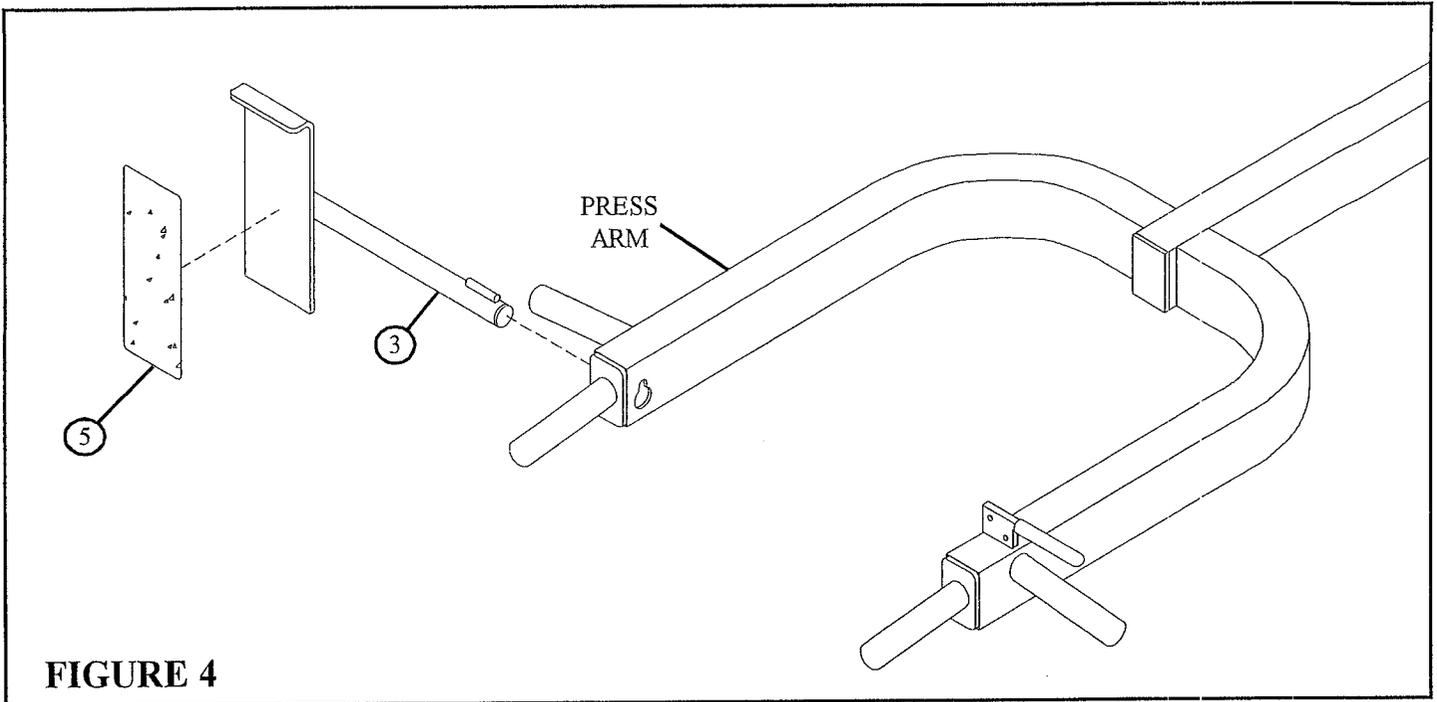

FIGURE 4
- Attach one NON-SKID STRIP (5) to the GLUTE KICK (3) as shown in FIGURE 4.
- Insert GLUTE KICK(3) into the hole on the PRESS ARM as shown.